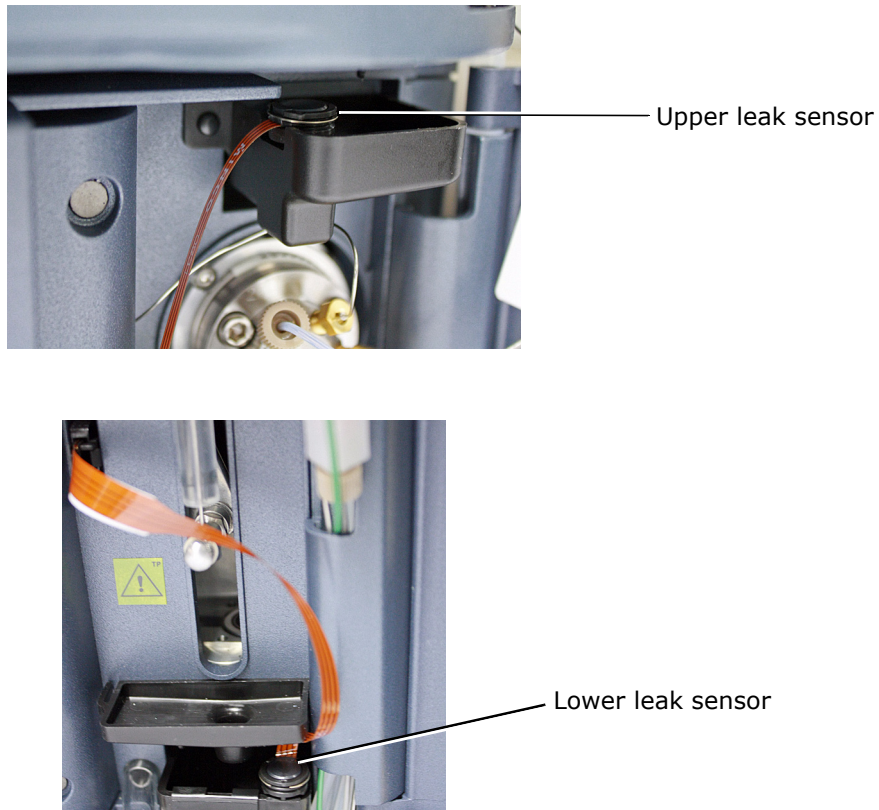

Figure 20 - SM-FTN leak sensor connections
4. Install the two leak sensors on the SM-FTN and one on the QSM. Figure 20 shows the upper and lower SM-FTN sensor connection details.